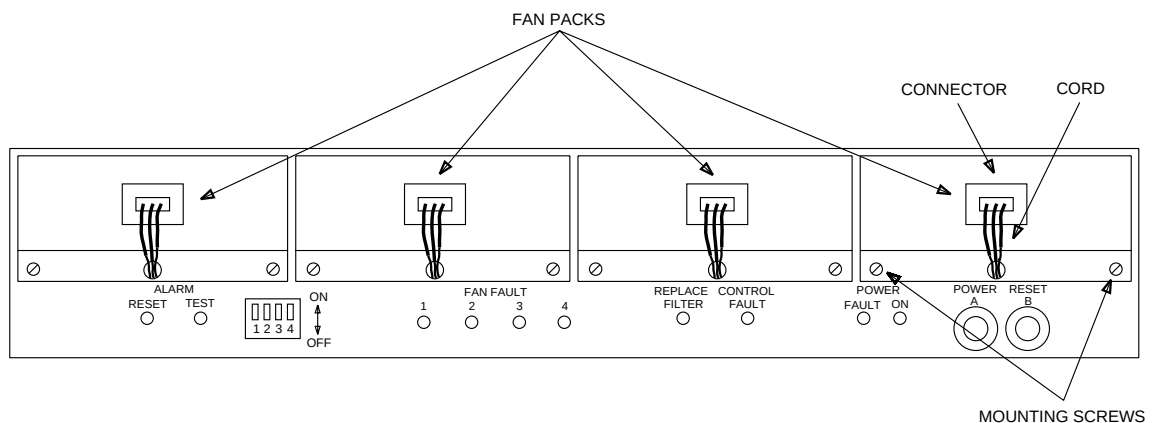

Figure 1. DDM-2000 Fan Shelf — Fan Switches — Front Cover Removed
6. Locate 4-part switch to left of center on front of fan shelf. See Figure 1.